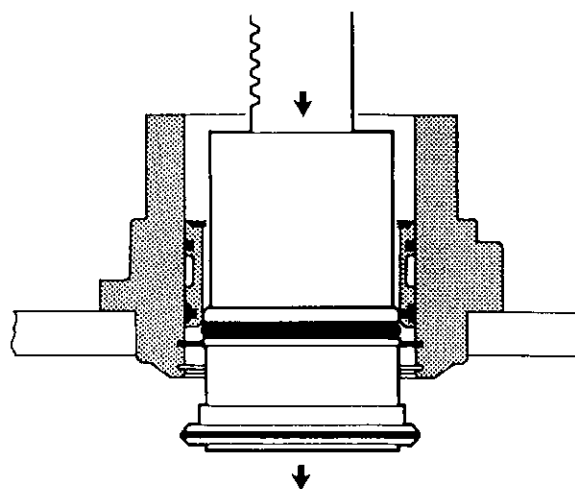

Figure 5.12
19. Place drive housing in a press supported by its flange and press out the bearing retainer (14). See Figure 5.12.